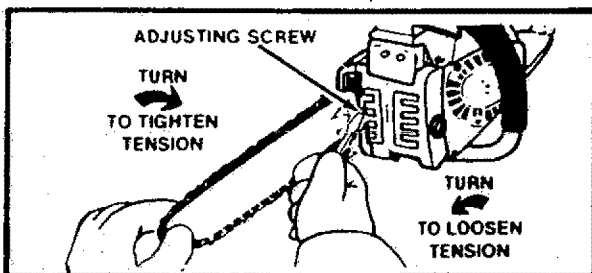

Figure 10
1. Turn the adjusting screw counterclockwise to move the adjusting pin almost as far as it will go to the rear. Figure 10.
6. Turn the adjusting screw clockwise until the chain is snug in the guide bar groove. Figure 10.
1. Hold the tip of the guide bar up and turn the adjusting screw just until the chain does not sag beneath the guide bar. Figure 10.